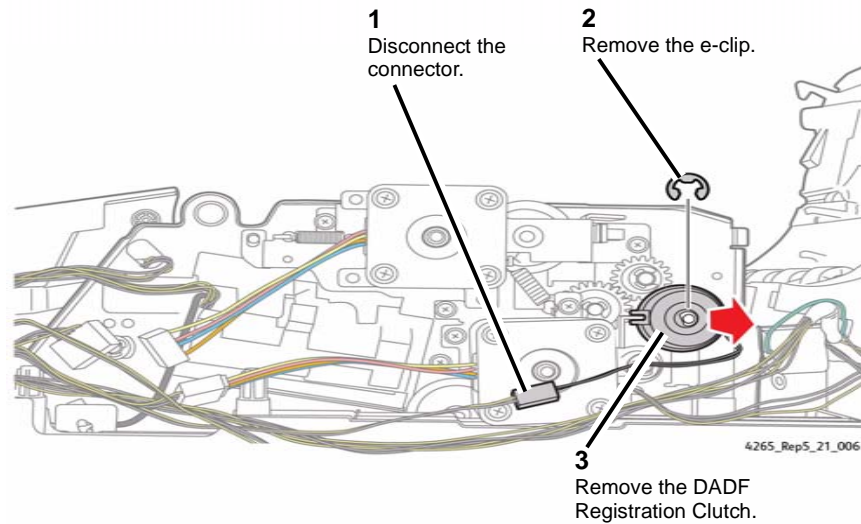

Figure 6 Removing the DADF Registration Clutch
9. Remove the DADF Registration Clutch (Figure 6).